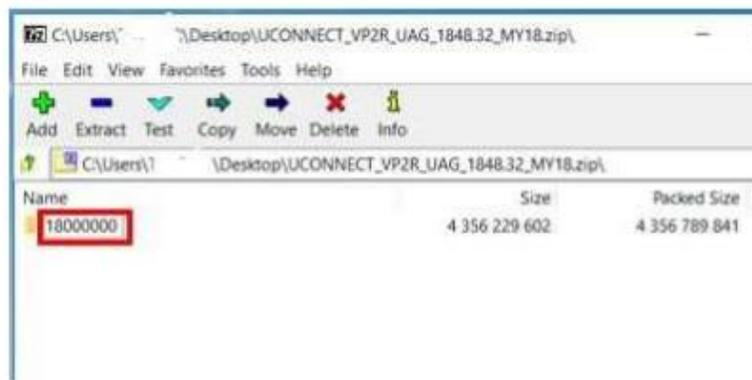

Figure 4 – Extracted File
- Be sure to download the file to your PC’s desktop and open it (Figure 4).